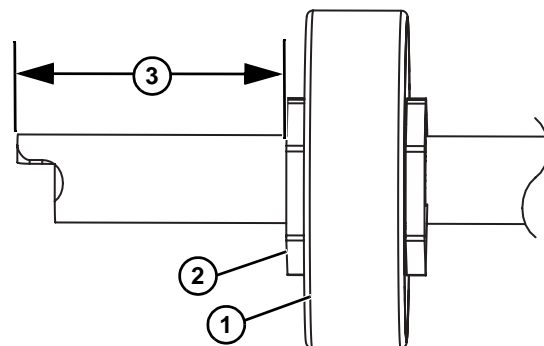

Figure 34
When assembling pucks (Figure 34, item 1) with retainer plates (Figure 34, item 2), make certain that there is a minimum of 38 mm (1.5") of clearance (Figure 34, item 3) on each end.